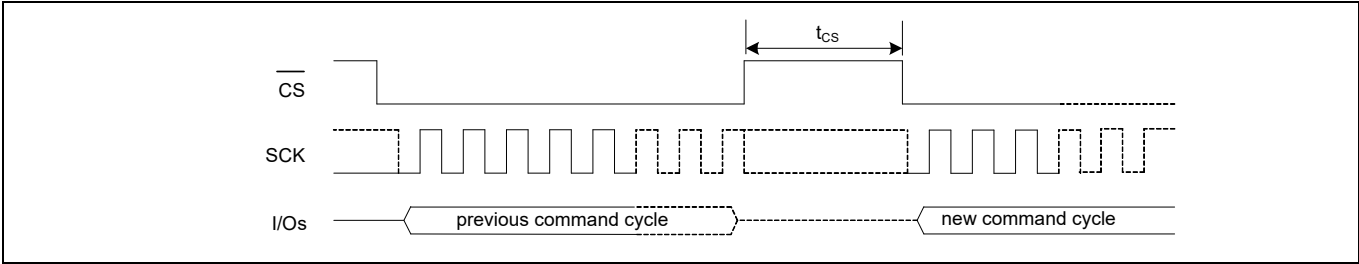

Figure 116 Chip deselect ($\overline{\text{CS}}$ HIGH) - t_{CS} timing
20. t_{CS} is the minimum chip deselect (\overline{CS} HIGH) time before the new command cycle starts in a specific SPI mode (SPI, DPI, or QPI). This parameter ensures that previous operation is successfully completed before the host starts a new command cycle. Refer to **Figure 116**.
20. t_{CS} is the minimum chip deselect (\overline{CS} HIGH) time before the new command cycle starts in a specific SPI mode (SPI, DPI, or QPI). This parameter ensures that previous operation is successfully completed before the host starts a new command cycle. Refer to Figure 116.
25. t_{CS} is the minimum chip deselect (\overline{CS} HIGH) time before the new command cycle starts in a specific SPI mode (SPI or QPI). This parameter ensures that previous operation is successfully completed before the host starts a new command cycle. Refer to **Figure 116**.
25. t_{CS} is the minimum chip deselect (CS HIGH) time before the new command cycle starts in a specific SPI mode (SPI or QPI). This parameter ensures that previous operation is successfully completed before the host starts a new command cycle. Refer to **Figure 116**.